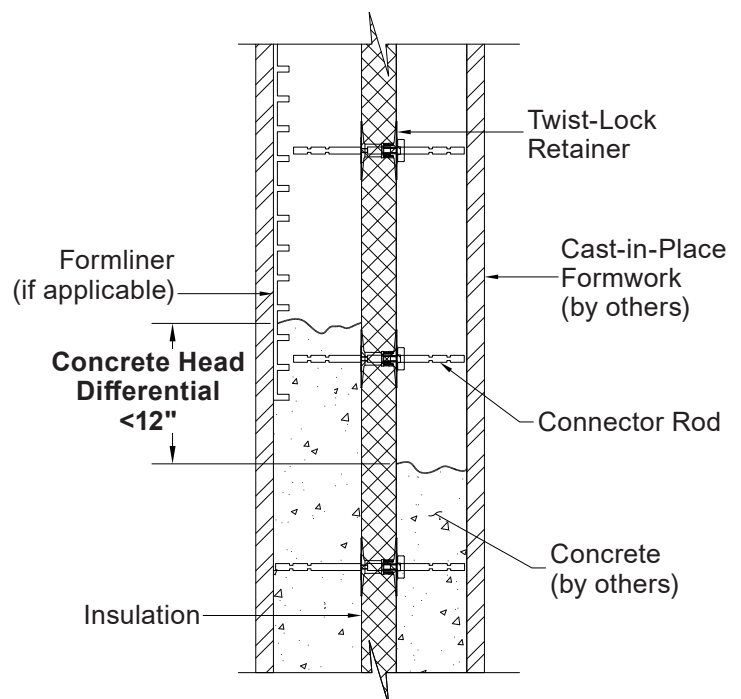

Figure 3 – Cast-in-place twist-lock connector as placed within wall assembly.
4. **PLACE THE CONCRETE** Use accepted practice for concrete mix design and placement procedures for thin wall sections. If multiple walls intersect, start the concrete placement at the insulated walls. **Ensure that the concrete is placed on both sides of the insulation with a maximum head differential of 12"** (Figure 3). Vibrate concrete properly to ensure full consolidation around connectors and reinforcement and to assist with flow of concrete to required location.